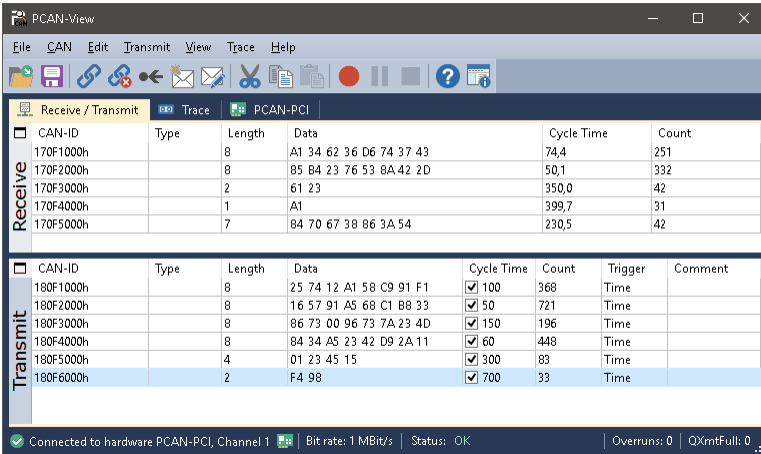

Figure 7: Receive/Transmit Tab
6. Confirm the settings in the dialog box with **OK**. The main window of PCAN-View appears (see Figure 7).